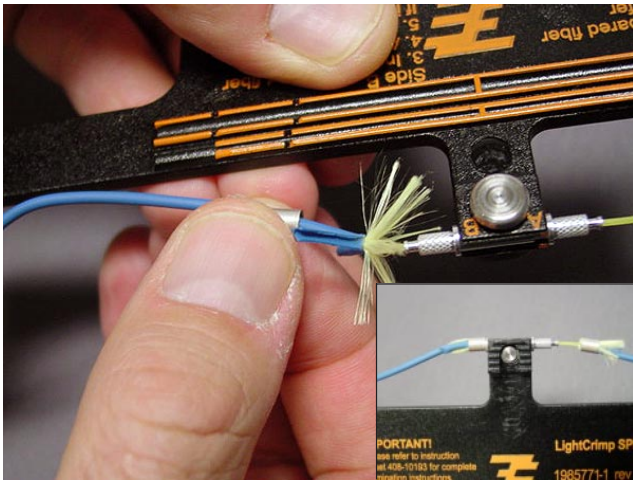

Figure 85
12. Slide the eyelet back to expose the aramid yarn and jacket. Push the eyelet forward over the aramid yarn and jacket until it stops on the shoulder of the splice. Repeat this process on side B. See Figures 85 and 86.